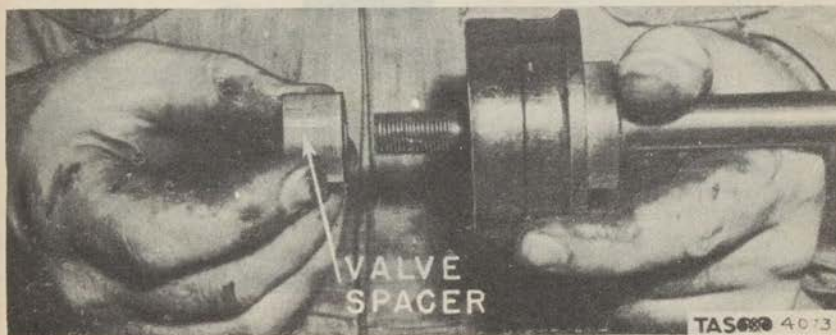

Figure 113. Removing Valve Spacer.
(11) Remove the valve spacer. (Fig. 113)